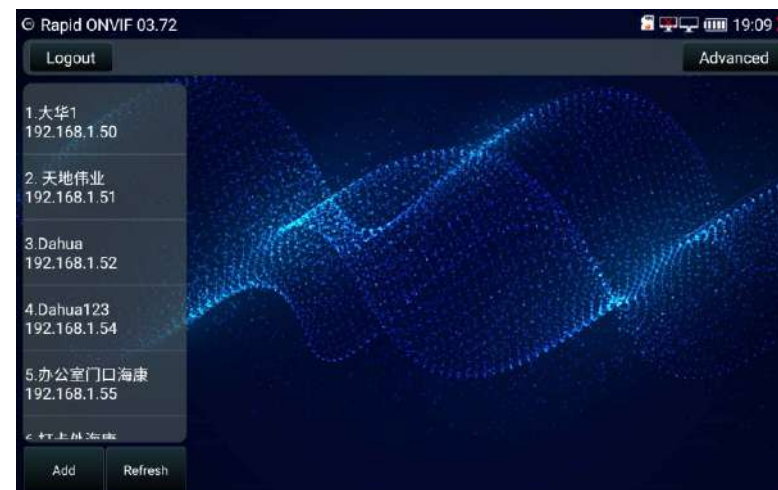

Figure 17
Touch the Rapid ONVIF icon to enter this App function, in the state of connecting to network, the instrument will scan ONVIF cameras in LAN automatically, after scanning for 1-2 seconds, Scanned ONVIF IP cameras will be listed on the left, for cameras do not require authentication, you can view the video image by touching the camera directly, for cameras that require authentication, input username and password to log in and view the image, as shown in Figure 17
1) Input the username and password in the second column, touch the login button, by default, username and password are both 'admin', if it prompts error username or password, touch log out to edit the value. By default, it logs in automatically, you can disable it in advanced setting menu. Click the small  icon on the right of username and password to view or delete the history username and password records, as shown in Figure 17